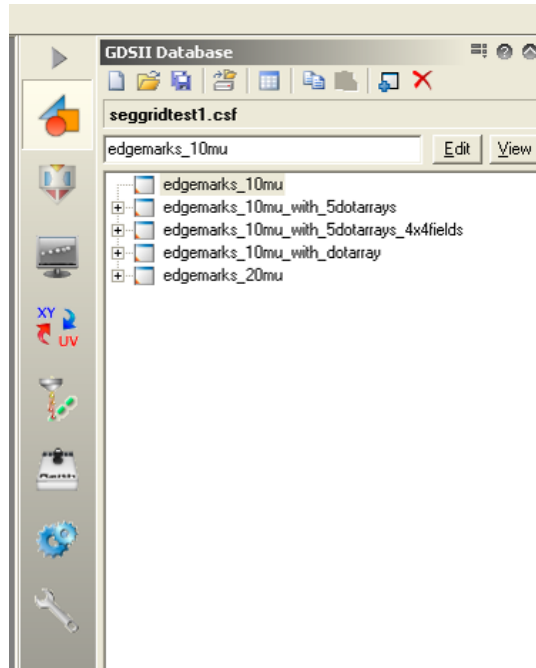

Figure 23: Pattern Database editor.
1. In the patterning menu (1st lithography menu from the top in figure 4) you can load an existing pattern library (GDSII database file). The program supports many different formats. Please consult the manual for the different possibilities for importing your pattern. The pattern can also be generated using the e-Line software. Just create a new library file (.csf file), using the white sheet icon at the top left (see figure 23). Then right click into the white space underneath the menu, then select [‘new pattern’]. Select the new structure entry and the click on edit to open the GDSII editor. At the top right hand corner you will find the icon that opens the toolbox window which gives access to a large number of functions to create your pattern from scratch, or edit it. Check the manual for details.
2. If you have created your pattern ascii text file using another programming tool like Matlab, the import dialogue is somewhat hidden. Select the menu button marked in figure 23 and choose ‘Load Ascii...’ to import the pattern text file.